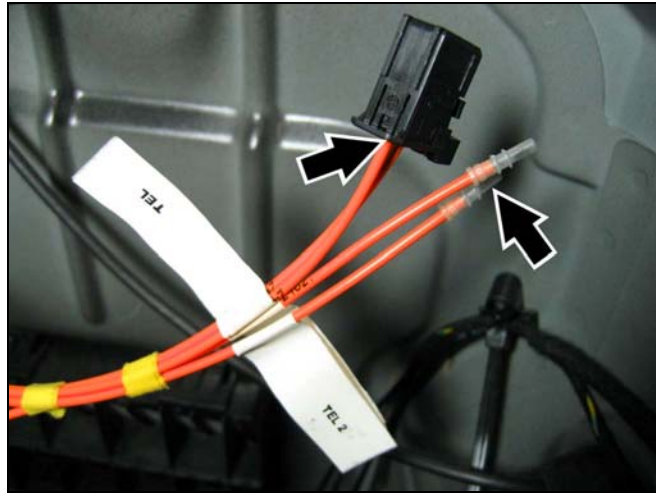

Figure 10
3. At the telephone control module (Figure 10) in the right well of the trunk, configure the MOST ring according to Figure 51.